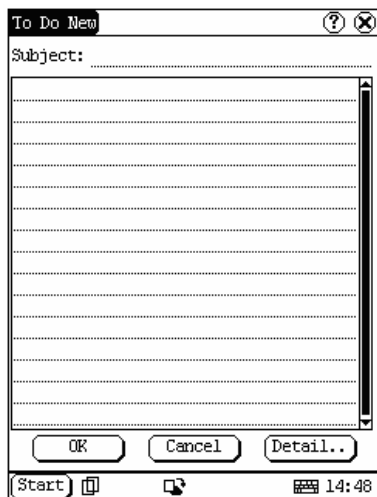

Figure 4-27
- 1) In the To Do interface, click [New] button to open the To Do New interface. See Figure 4-27.